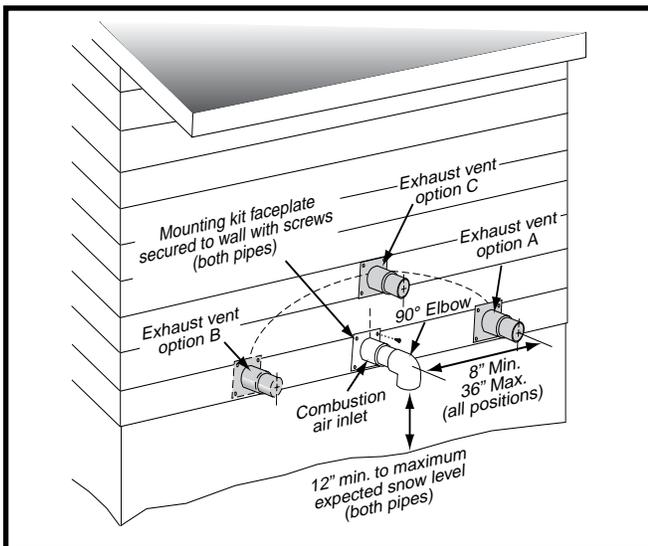
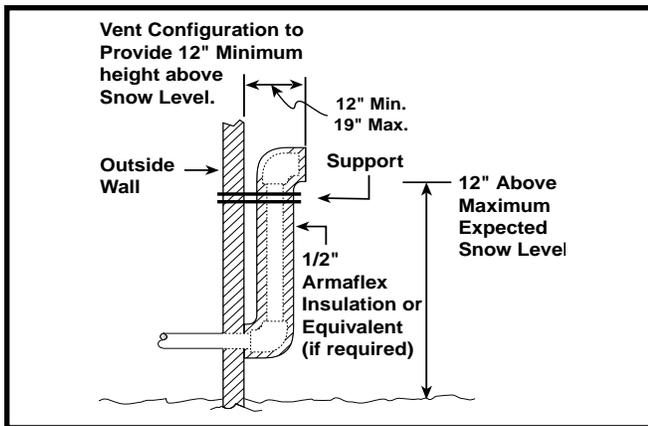

Figure 7. Inlet & Exhaust Pipe Clearances
Figure 9. Alternate Horizontal Vent Installation
- The combustion air intake and the vent exhaust must be located in the same atmospheric pressure zone. This means both pipes must exit the building through the same portion of exterior wall or roof as shown in Figures 7 - 10 and Figure 44 (page 44).
Vent and combustion air intake terminations shall be installed as depicted in Figures 7 & 8 and in accordance with these instructions:
- When the vent pipe must exit an exterior wall close to the grade or expected snow level where it is not possible to obtain clearances shown in Figure 7, a riser may be provided as shown in Figure 9 (page 12). Insulation is required to prevent freezing of this section of pipe. For vent freezing protection, see page 12.
The combustion air vent and exhaust vent must be configured as shown in Figure 9. Improper vent terminations can cause the recirculation of flue gases which may result in furnace vibration. In severe cases, the furnace will cycle, due to the intermittent contact between the flame and the flame sensor. If you notice these oscillations occurring, check the vent configuration to make sure the exhaust vent does not have a 90 degree termination.
- The combustion air inlet pipe must have a 90 degree termination elbow, and pointed downwards as shown in Figure 7 (page 11).